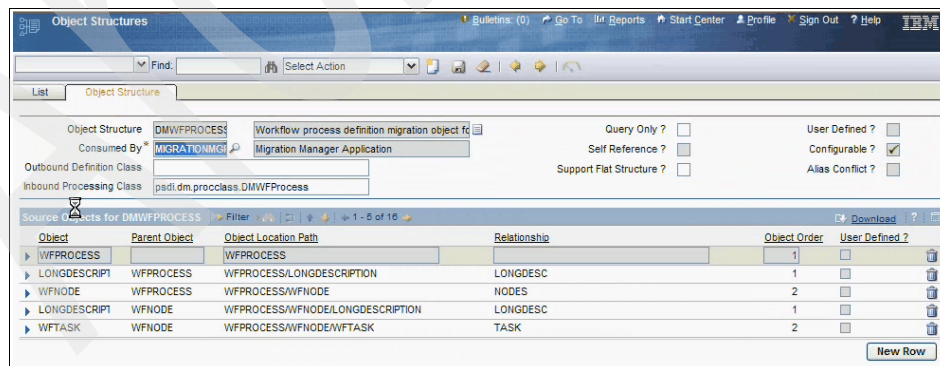

Figure 8-14 DMWFPROCESS Object Structure
2. Search and select the DMWFPROCESS object structure. The object is shown in Figure 8-14.